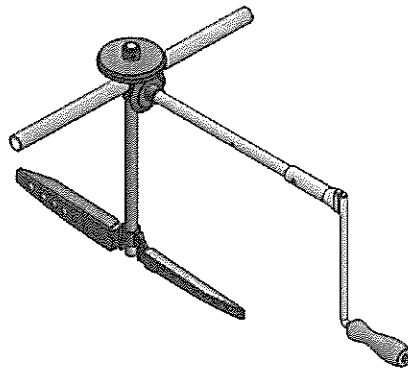

Figure 3. Mixer
The brandy making tilted type pot still consists of a furnace (1), with a mounted-on pot (2), on top of which a lid (3) is placed and fastened by a stainless steel flange 4mm (18) and silicon rubber seal 10mm (19) fastening the 6 screws (5) for the flange after the silicon rubber seal (19) is placed correctly on the pot's inner edge. The still is connected to a cooler (13) by a connecting pipe (4) called a line arm. The cooler has 4 copper cooling pipes (14) where alcohol vapor passes through and is condensed. The connecting pipe is placed into 3-clamp connections (10) after the silicon rubber seal for the 3-clamp (10) connections is correctly places into the groove of the 3-clamp. A mixer crank (7) connected to the shaft (9) transfers the rotation by the gears (6). A mixer (8) is connected to the shaft (9). The mixer prevents the mash burning during the distillation process with simple and easy handling (Figure 3).